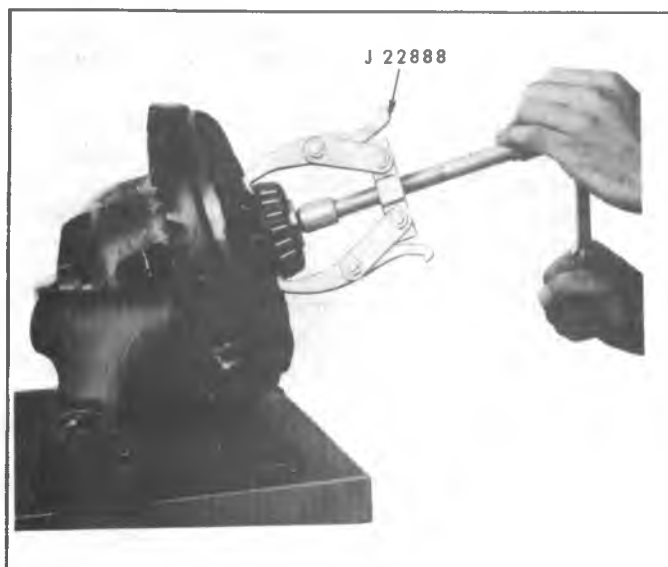

Fig. 4B1-18--Differential Bearing Removal
3. Place new bearing on hub with thick side of inner race toward case and drive into place, using J-22175 for 8-7/8" or J-22761 for 8-1/2" or J-29710 for the 9 1/2" ring gear and Driver Handle J-8092, as shown in figure 4B1-19.
4. Before bearing installation on opposite hub, support differential case on Adapter Plug J-8107-4 or J-8107-3. This allows differential case to rest on adapter instead of bearing cage. See figure 4B1-19. Install remaining bearing as instructed in step 3.